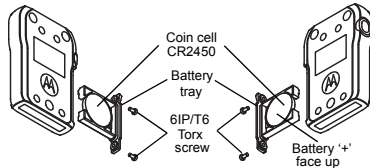

Figure 2: PMLN7594 (Left) and PMLN7593 (Right).
1. Unscrew the battery tray as shown in Figure 2.